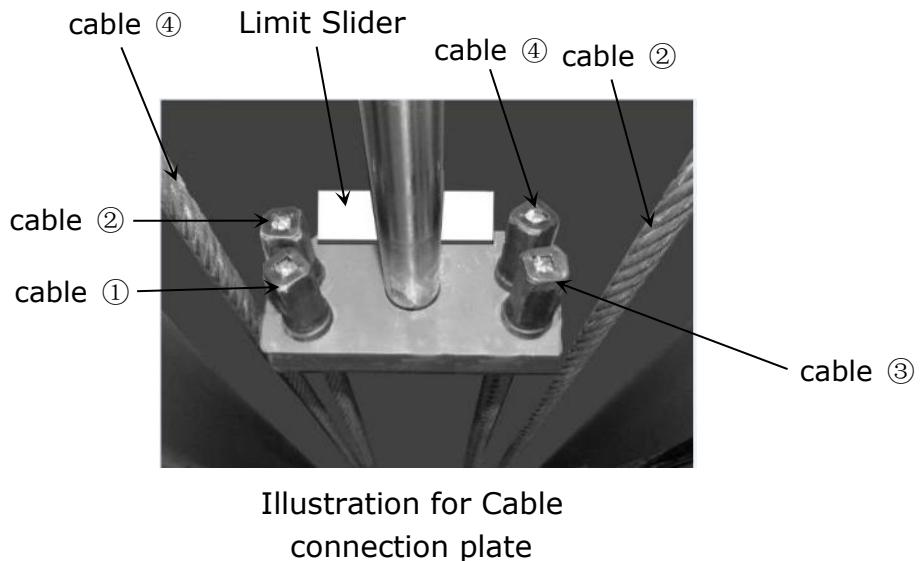
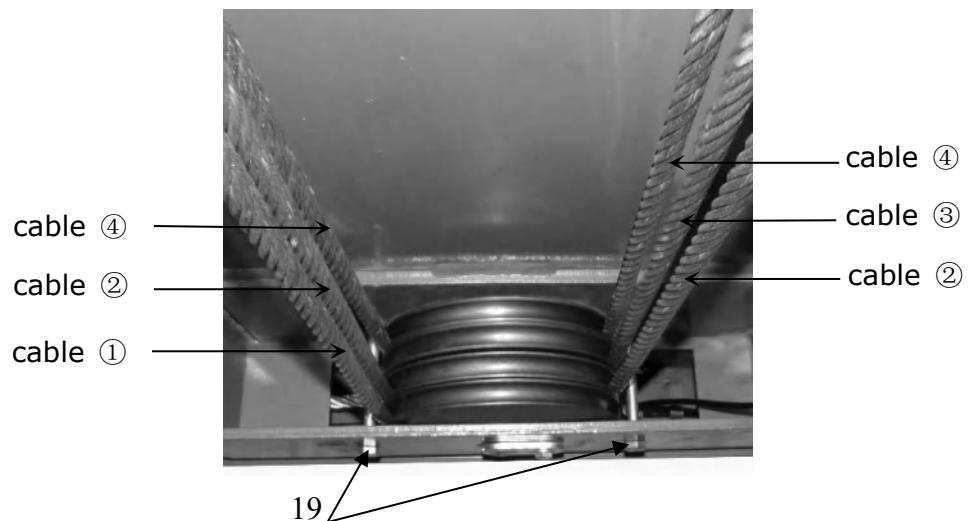

Fig.29
Fig.30
3. Illustration for platform cables (See Fig. 29, Fig.30, Fig.31)